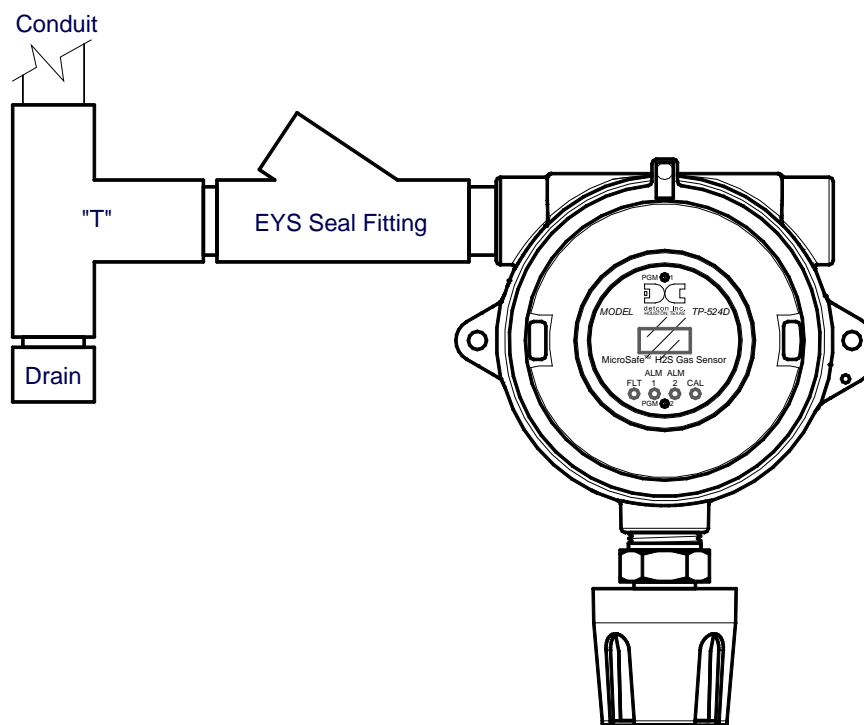
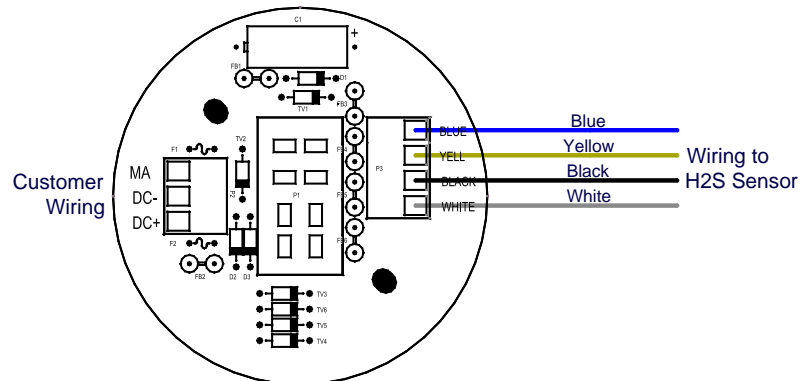

Figure 8 Typical Installation
Figure 9 Sensor Connector PCB
NOTE: In all installations the gas sensor should point straight down (refer to Figure 8). Improper sensor orientation may result in false readings and permanent sensor damage.
Proper electrical installation of the gas sensor is critical for conformance to Electrical Codes and to avoid damage due to water leakage. Refer to Figure 8 and Figure 9 for proper electrical installation.
NOTE: If a conduit run exits the secondary port, repeat the installation technique shown in Figure 8.
In Figure 8, the drain allows H₂O condensation inside the conduit run to safely drain away from the sensor assembly. The electrical seal fitting is required to meet the National Electrical Code per NEC Article 500-3d (or Canadian Electrical Code Handbook Part 1 Section 18-154). Requirements for locations of electrical seals are covered under NEC Article 501-5. Electrical seals also act as a secondary seal to prevent water from entering the wiring terminal enclosure. However, they are not designed to provide an absolute watertight seal, especially when used in the vertical orientation.
NOTE: For products utilizing the aluminum junction box option, the conduit seal shall be placed at the entry to the junction box (see Figure 8 as an example). For products utilizing the stainless steel junction box option, the conduit seal shall be placed within 18" of the enclosure. Crouse Hinds type EYS2, EYD2 or equivalent are suitable for this purpose.
- Observing correct polarity, terminate the 3-conductor 4-20mA field wiring (DC+, DC-, and MA) to the sensor assembly wiring in accordance with the detail shown in Figure 9.